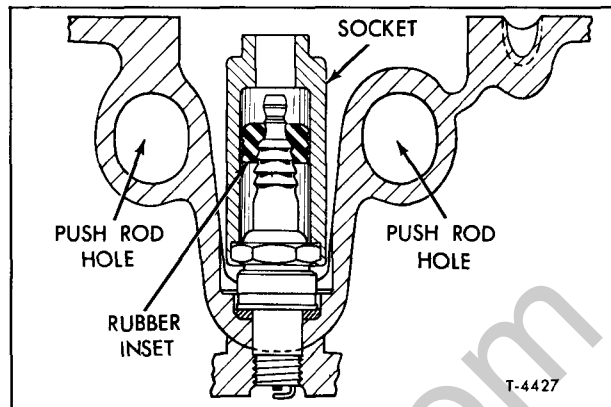

Figure 7—Wrench Socket Installed on Plug (Typical)
2. Use special spark plug wrench socket No. S-9704B (manufactured by Snap-On Tool Co.) (fig. 7) and unscrew plugs from cylinder head. Ordinary wrenches may damage porcelain. If gaskets do not remain on plugs, remove from cylinder head.
Install spark plugs in the engine with new gaskets and tighten finger-tight. Using special spark plug wrench socket (S-9704B) as shown in figure 7, and a torque wrench, tighten plugs to 23-27 foot-pounds torque.